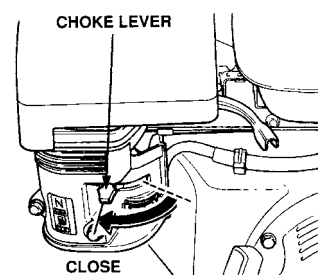

Figure 11. Engine Choke Lever (Closed)
- Place the choke lever (Figure 11) in the **CLOSED** position if starting a cold engine.